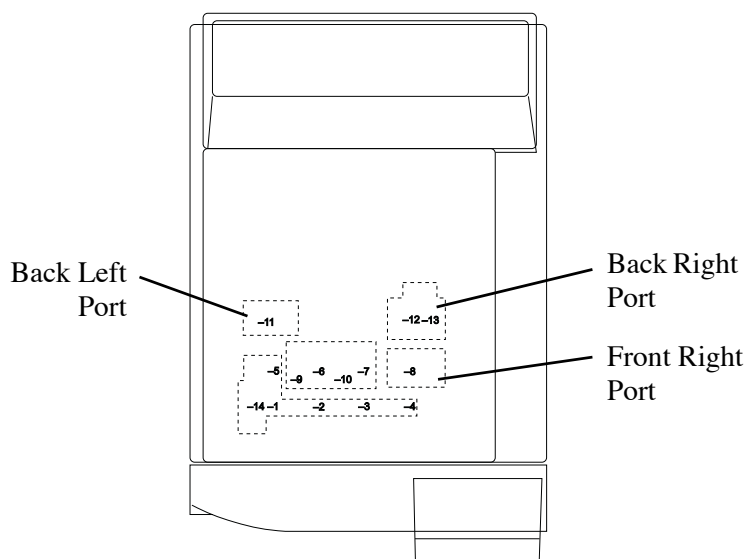

Figure 4.11. Shimadzu GC-2014 Detector Mounting Ports
3. The back right detector port on the Shimadzu GC's top plate is the preferred port for the PFPD (see Figure 4.11). This location ensures that the photomultiplier tube (PMT) will not receive excess heat from the injector port.
NOTE: The PFPD can be installed into the front right or back left port, as long as the PMT housing does not come too close to an injector or another heated detector. Avoid running the heater cable alongside the PMT signal cable. Either condition will contribute to noise to the detector signal (see Figure 4.11).